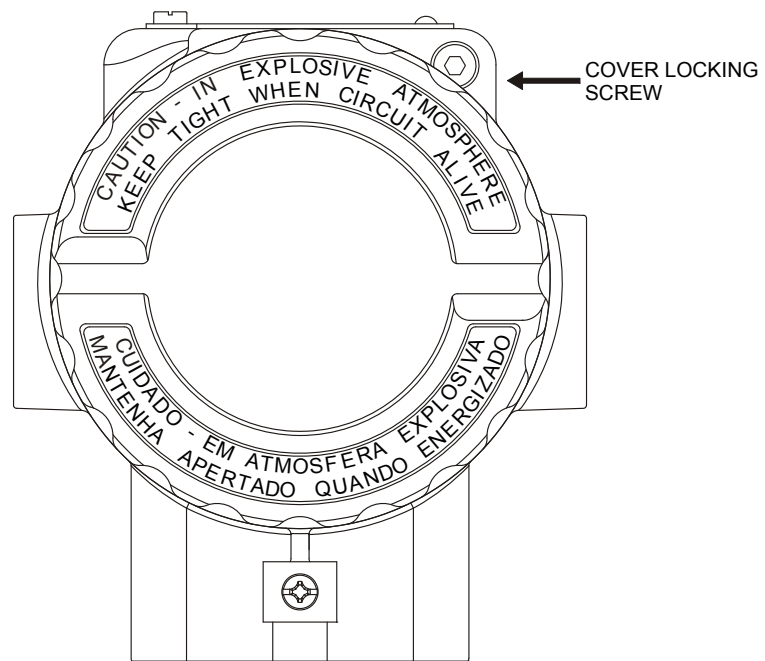

Figure 6.1 – Cover locking screw
2. Remove the cover. It has a **cover locking screw** that needs to be rotated in a clockwise direction to be loosened. By reversing the process the cover will be locked. See figure 6.1.